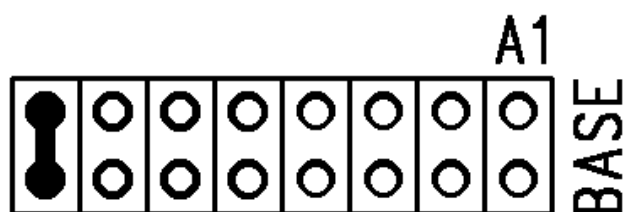

Figure 2-2 Base Address jumpers set for 300H.
- Fig. 2-2 : Base address jumpers (factory default)